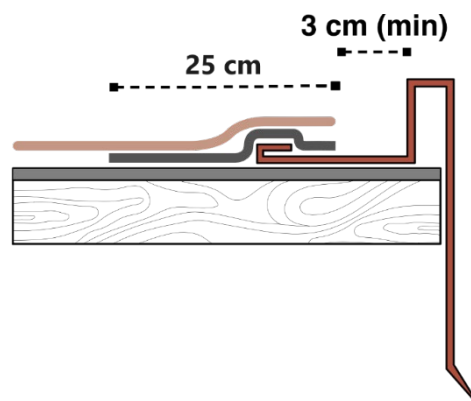

**Fig. 14** - Shingles installation at valley
- As for the roof valleys, prepare a band of bituminous membrane about 100cm wide, applied by torch in advance, to ensure its waterproofing – Fig. 14. Install a copper metal valley flashing above the membrane, with a shape similar to Fig. 13, along the centre of the valley.
- Next, install the starting row and the shingles on the first pitch, up to the valley line, cutting them 3 cm and parallel to the valley line. Secure the shingles and the starting row with stainless steel nails, up to approximately 40 cm from the valley line, and with Bitustick, applied in two parallel rows, at distances no greater than 40 cm from the valley line, above the metal valley flashing – Fig. 14. It is also advisable to cut the upper edge of the shingle transversely at the valley, to direct the descending water along the valley centerline – Fig. 14.
- Repeat the same procedure for the second pitch. In the end, a channel should be created between the shingles, along the metal valley, where the water will flow preferentially – Fig. 14.
- As for the roof valleys, prepare a band of bituminous membrane about 100cm wide, applied by torch in advance, to ensure its waterproofing. Install a copper metal valley flashing above the membrane, with a shape like Fig. 14, along the centre of the valley.